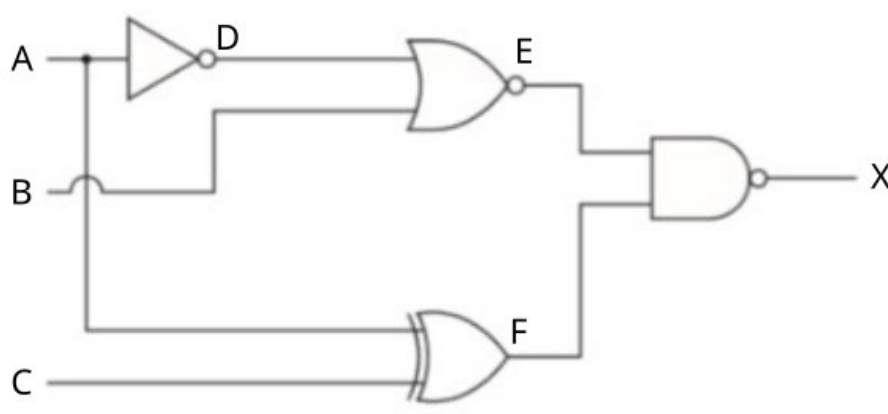

Figure 5[a]
5. [a] Construct the truth table for the logic circuit shown in Figure 5[a] and show which input will cause a low output.